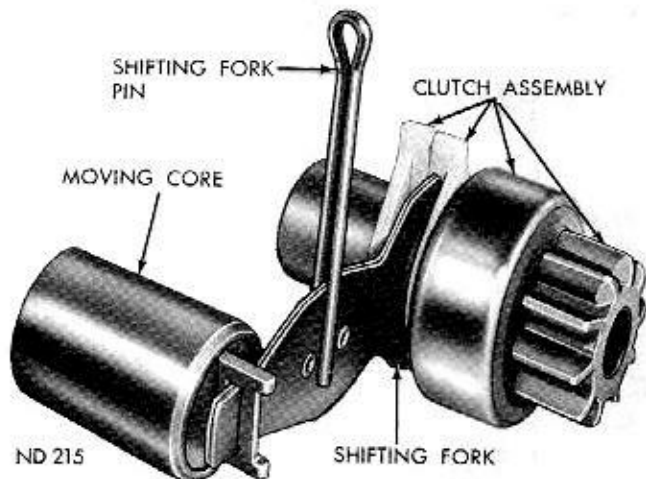

Fig. 17—Shifter Fork and Clutch Arrangement
(5) Complete installation of pinion shaft, engaging shifting fork with clutch actuators. Figure 17 shows correct relation of parts at assembly. **The friction washer must be positioned on shoulder of splines of the pinion shaft before driven gear is positioned.**